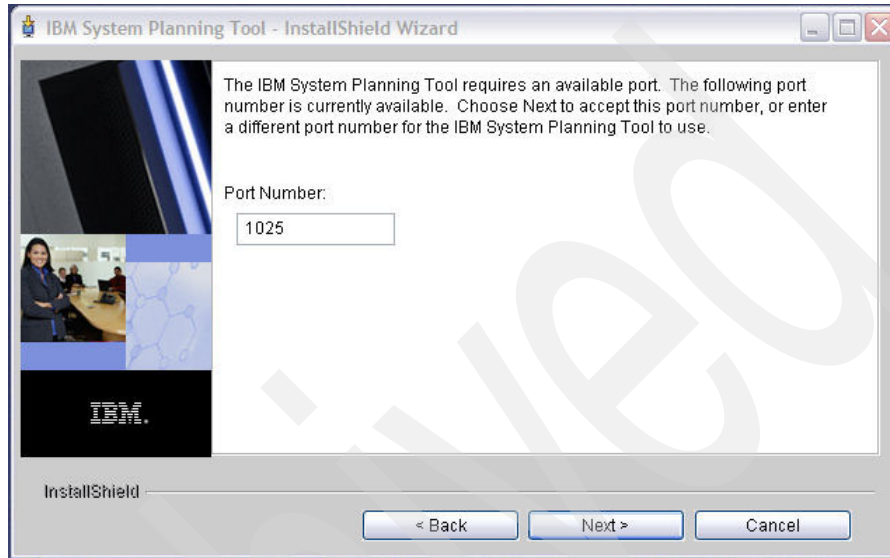

Figure A-11 SPT port selection
6. You will now be presented with a port selection screen (Figure A-11). This allows you to change the default port that System Planning Tool will use depending on your particular firewall scheme. Click **Next** to continue with the default or change to a different working port and click **Next**.